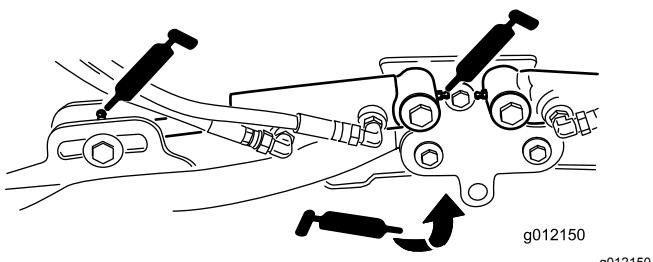

Figure 77
- Cutting-unit lift-arm cylinders (2 each) (Figure 77)